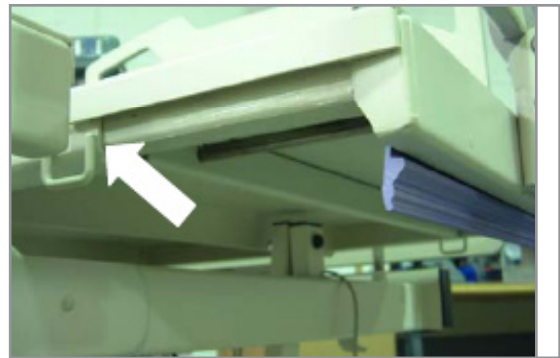

Figure 26
1. Grease Side and Foot Extensions (sample indicated by arrows in Figure 26 & 27).